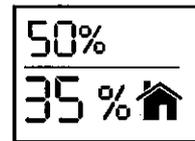

Fig. 21
- The air washer will adjust its operation to achieve your desired humidity level. For example, Figure 21 indicates that the room’s humidity level is at 35% (indicated by 35% (🏠) in display) but your desired humidity level is at 50%. The air washer will continue to humidify the air until the humidistat reaches 50% (Fig. 21).